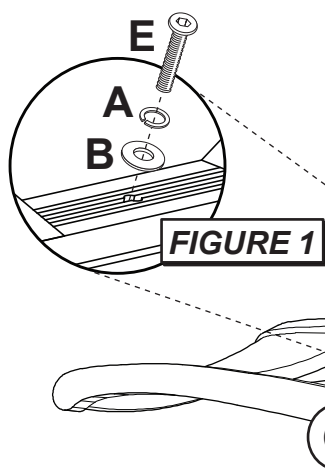

FIGURE 1
Begin assembly by attaching the Seat Frame (H) to the Seat Back (G) with 2 Allen Bolts (C), 2 Spring Washers (A) and 2 Flat Washers (B) from each side and 1 Allen Bolt (E), 1 Spring Washer (A) and 1 Flat Washer (B) from the center. See **Figures 1 and 2**.